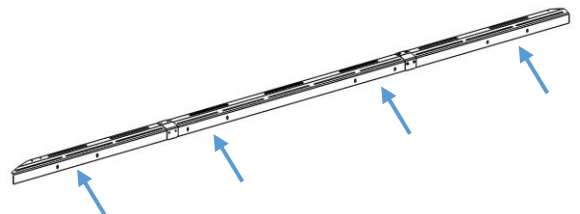

Figure 9: Mounting Bracket Locations
5. Install the mounting brackets onto the side rail assembly using the 1/4"-20 x 5/8" carriage bolts with anti-seize, nuts, and 5/8" OD washers as shown in Figure 9 & 10. There are 4 mounting bracket locations on each side (8 total).